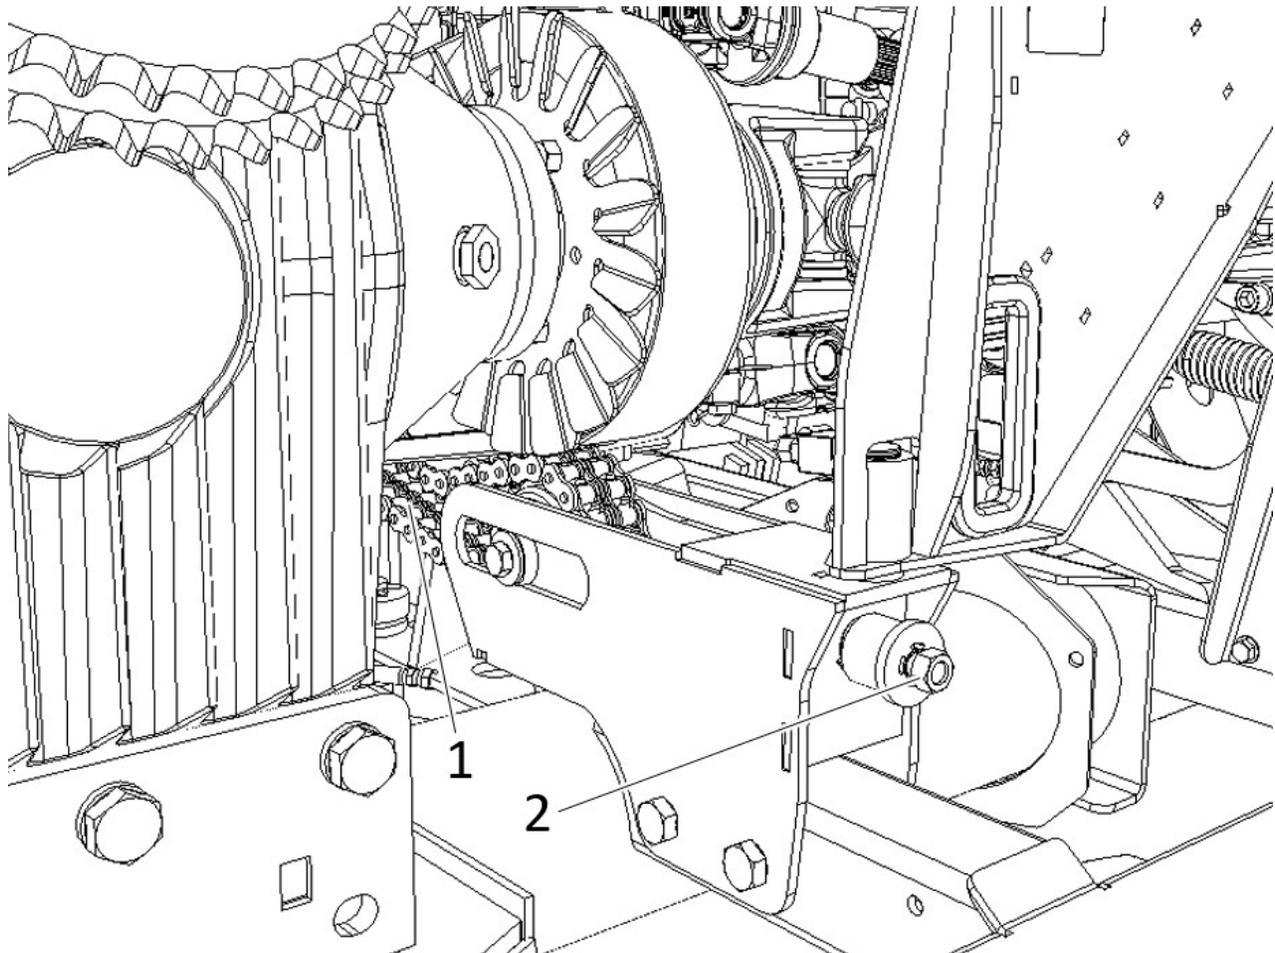

Figure 50 Chain tensioner
STEP 2 – FIGURE 50
STEP 5 - FIGURE 50